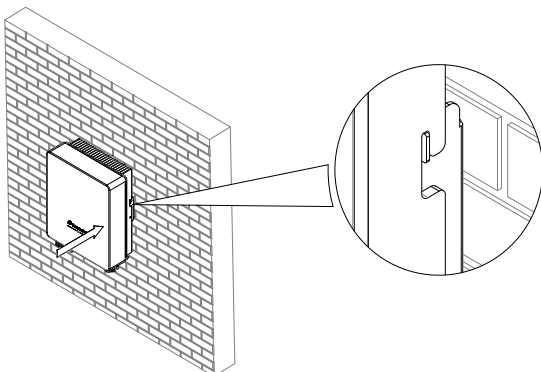

FIG. 6-9 Hang the Inverter on Wall-mounting Bracket
1) Hang the inverter on wall-mounting bracket. Keep balance during the operation to prevent device damage from colliding with walls or obstacles, as per FIG. 6-9.